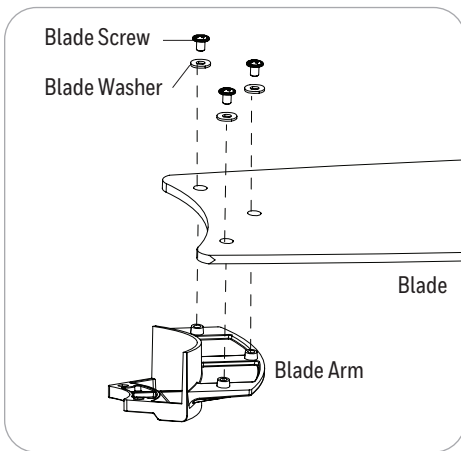

Figure 5.4
4. Insert the blade screws along with the blade washers through the blade and into the blade arm. Tighten each blade screw with a Phillips screwdriver (not included), starting with the one in the middle. Repeat this step for the remaining blades and blade arms (Figure 5.4).